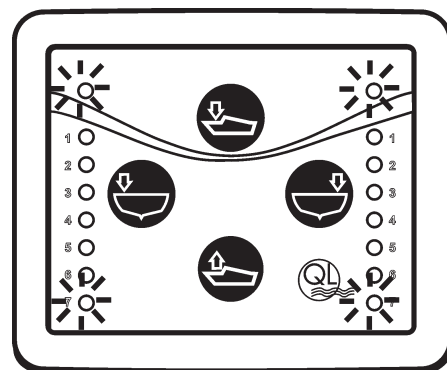

Fig. 24
5. The blades will go fully out, stop and then retract fully. Once this has been done in a proper way, the two upper and two lower LEDs on the control panel will flash twice. **See fig. 24.**